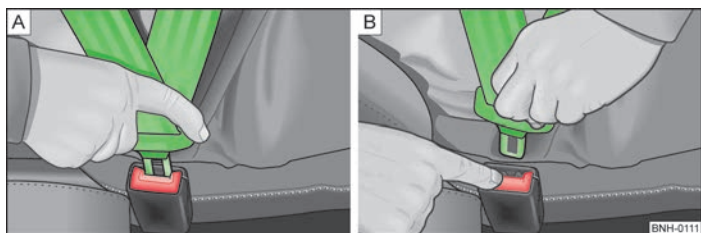

Fig. 138 Fastening/unfastening the seat belt
- Insert the lock tongue into the belt buckle » Fig. 138 - A that is part of the seat until it clicks into place.
- Press the red button in the belt buckle » Fig. 138 - B, the lock tongue pops out.